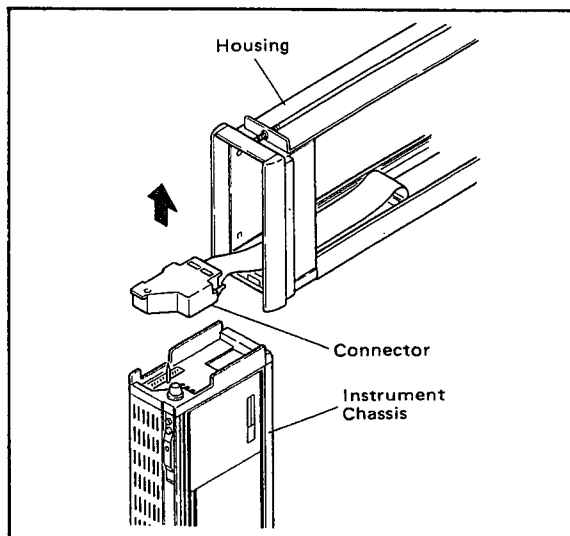

Figure 5-5. Removing the Instrument Chassis from the Housing.
- (3) Remove the connector from the instrument chassis. This separates the instrument chassis from the housing (Figure 5-5).